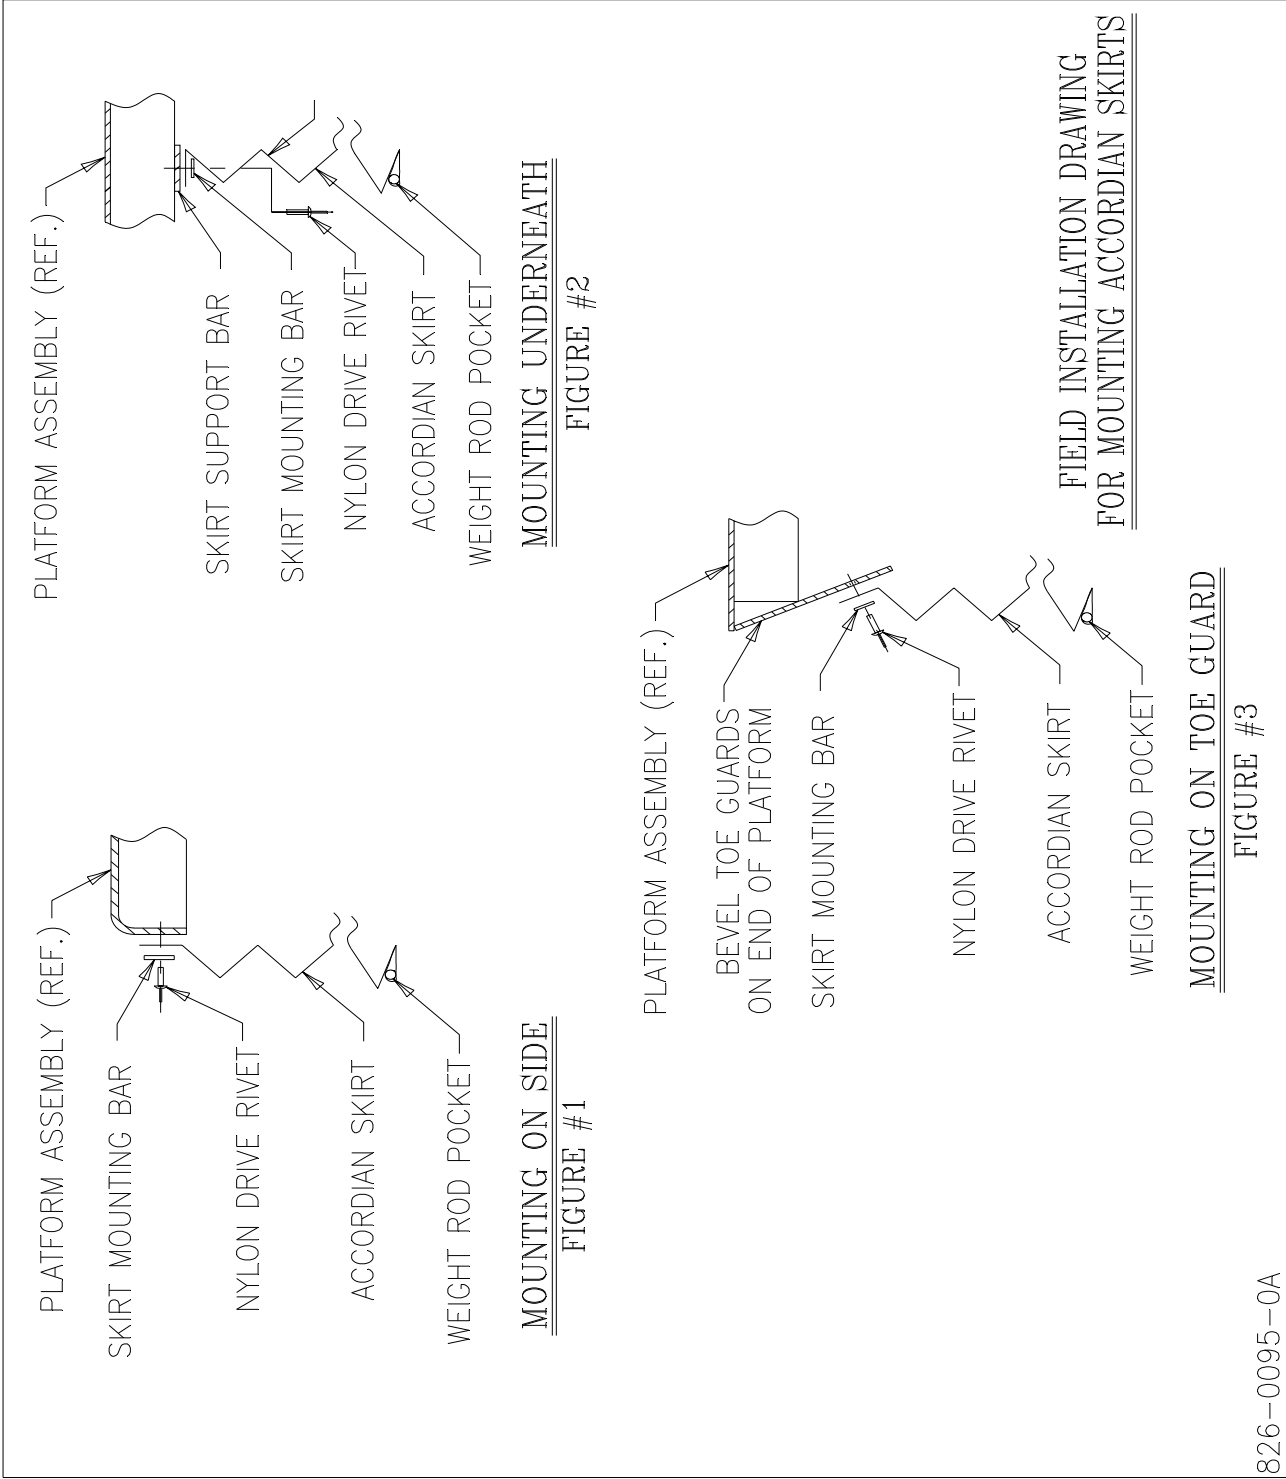

Figure 19 Field Installation Diagram for Mounting Accordion Skirts
3. See Figure 19 and select the correct mounting configuration (Number 1, 2, or 3).